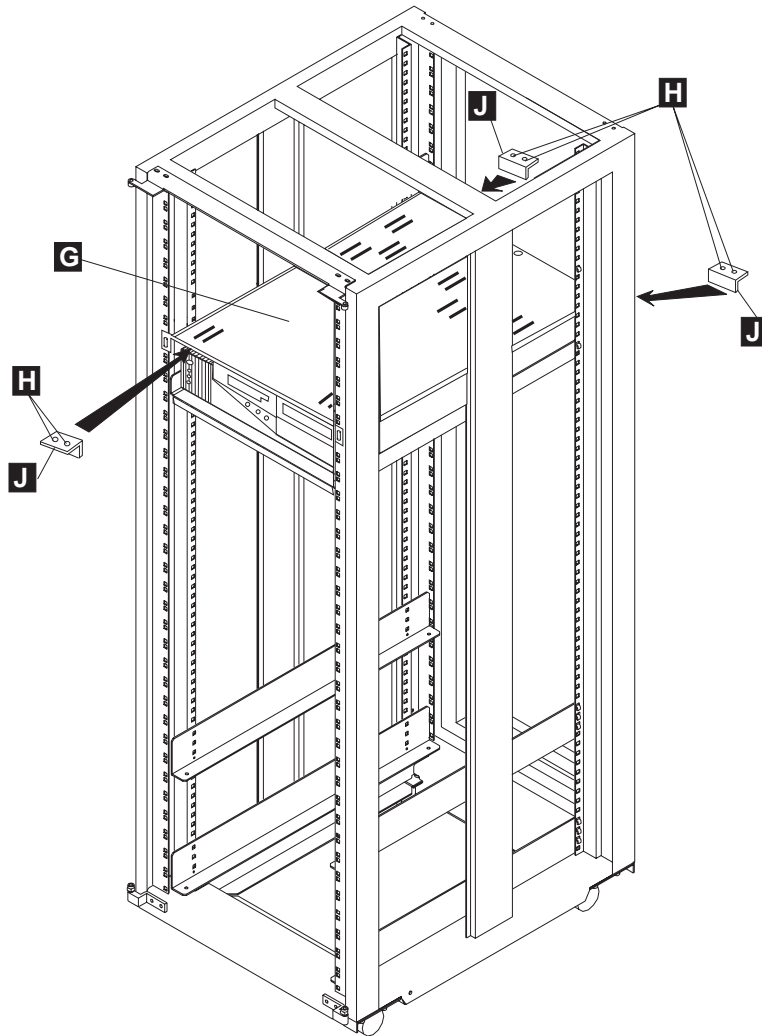

Figure 1-14. Installing the Retainers to Secure the NAS in a 37 U rack (Earthquake)
9. ____ From the rear of the rack. Push the NAS against the retainer previously installed. Install two retainers **J** under the upper plate **G** in order to maintain the NAS. Secure them using screws **H** (refer to Figure 1-14).